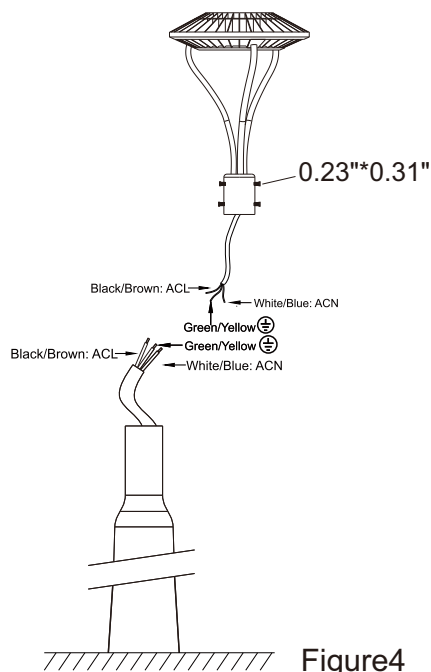

Figure4
4. Loosen the handle screw and connect the corresponding LN G wire to make it waterproof. (Figure 4)